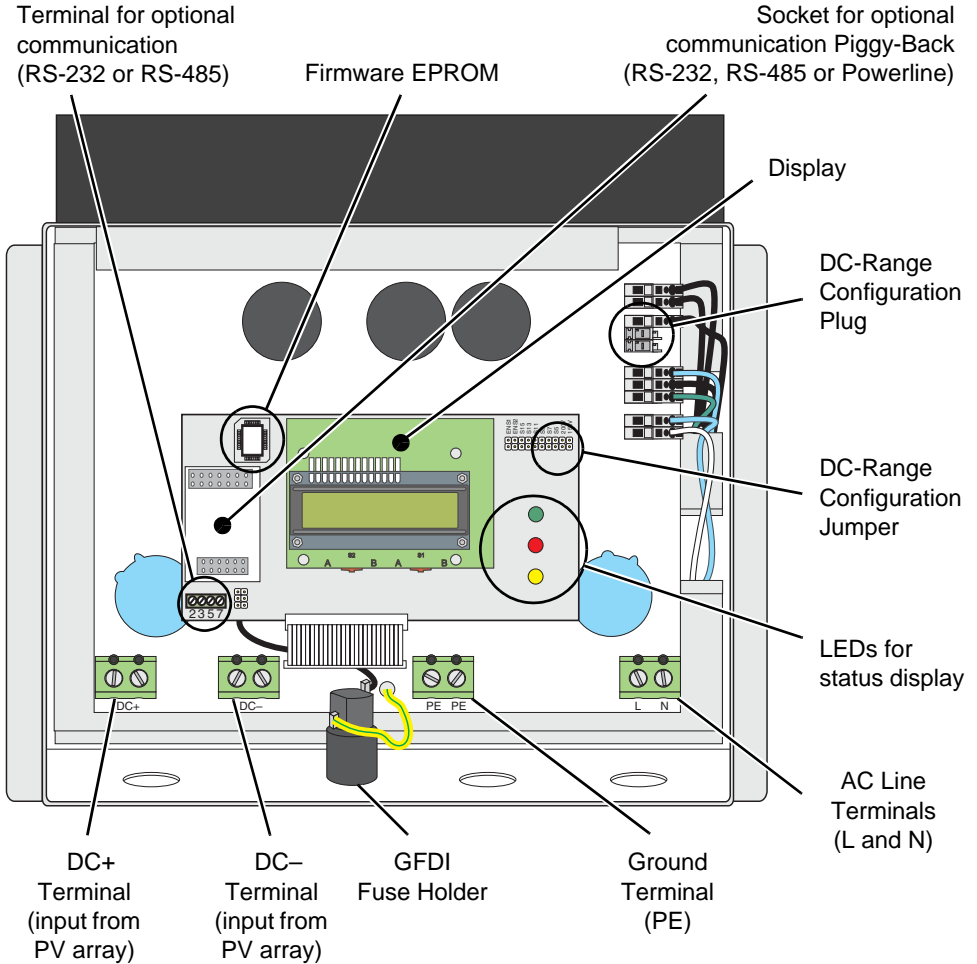
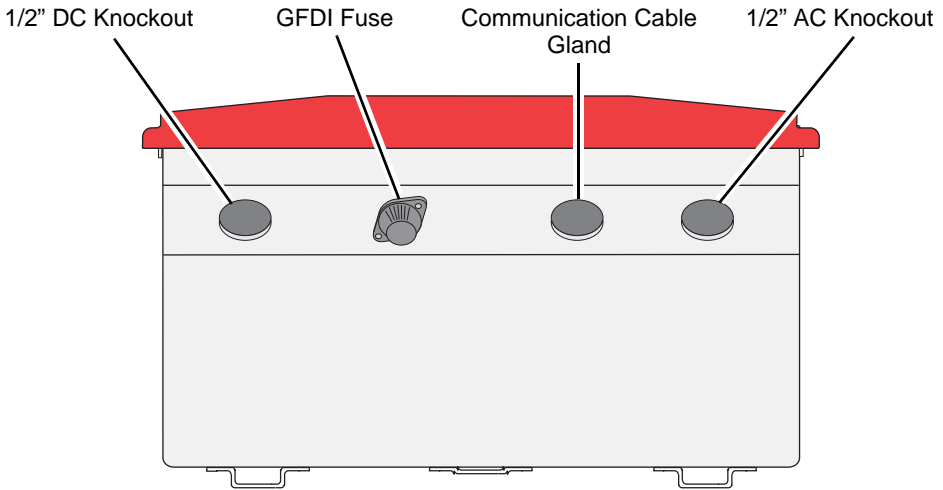

Figure 4-1 Sunny Boy 700U Internal Component Locator
Figure 4-2 Bottom View of the Sunny Boy 700U Showing 1/2" Wiring Knockouts
Figure 4-1 shows the internal components of the Sunny Boy 700U. Refer to this illustration whenever you need to locate a component to complete a step of the installation procedure.
The DC input from the PV array (via the DC disconnect enclosure) and the output to the AC utility grid connect to the inverter inside the Sunny Boy’s case. These internal AC and DC wiring terminals (see Figure 4-1) accept a maximum wire size of #6 AWG. Knockouts are provided on the bottom of the Sunny Boy near each of the terminals for the wires to enter the case (Figure 4-2).
3. Install a ½-inch conduit fitting in the Sunny Boy's AC wiring knockout (the knockout farthest to the right on the bottom of the Sunny Boy, as shown in Figure 4-2 on page 4-4). Fasten the fitting on the inside of the Sunny Boy with the nut supplied with the fitting.